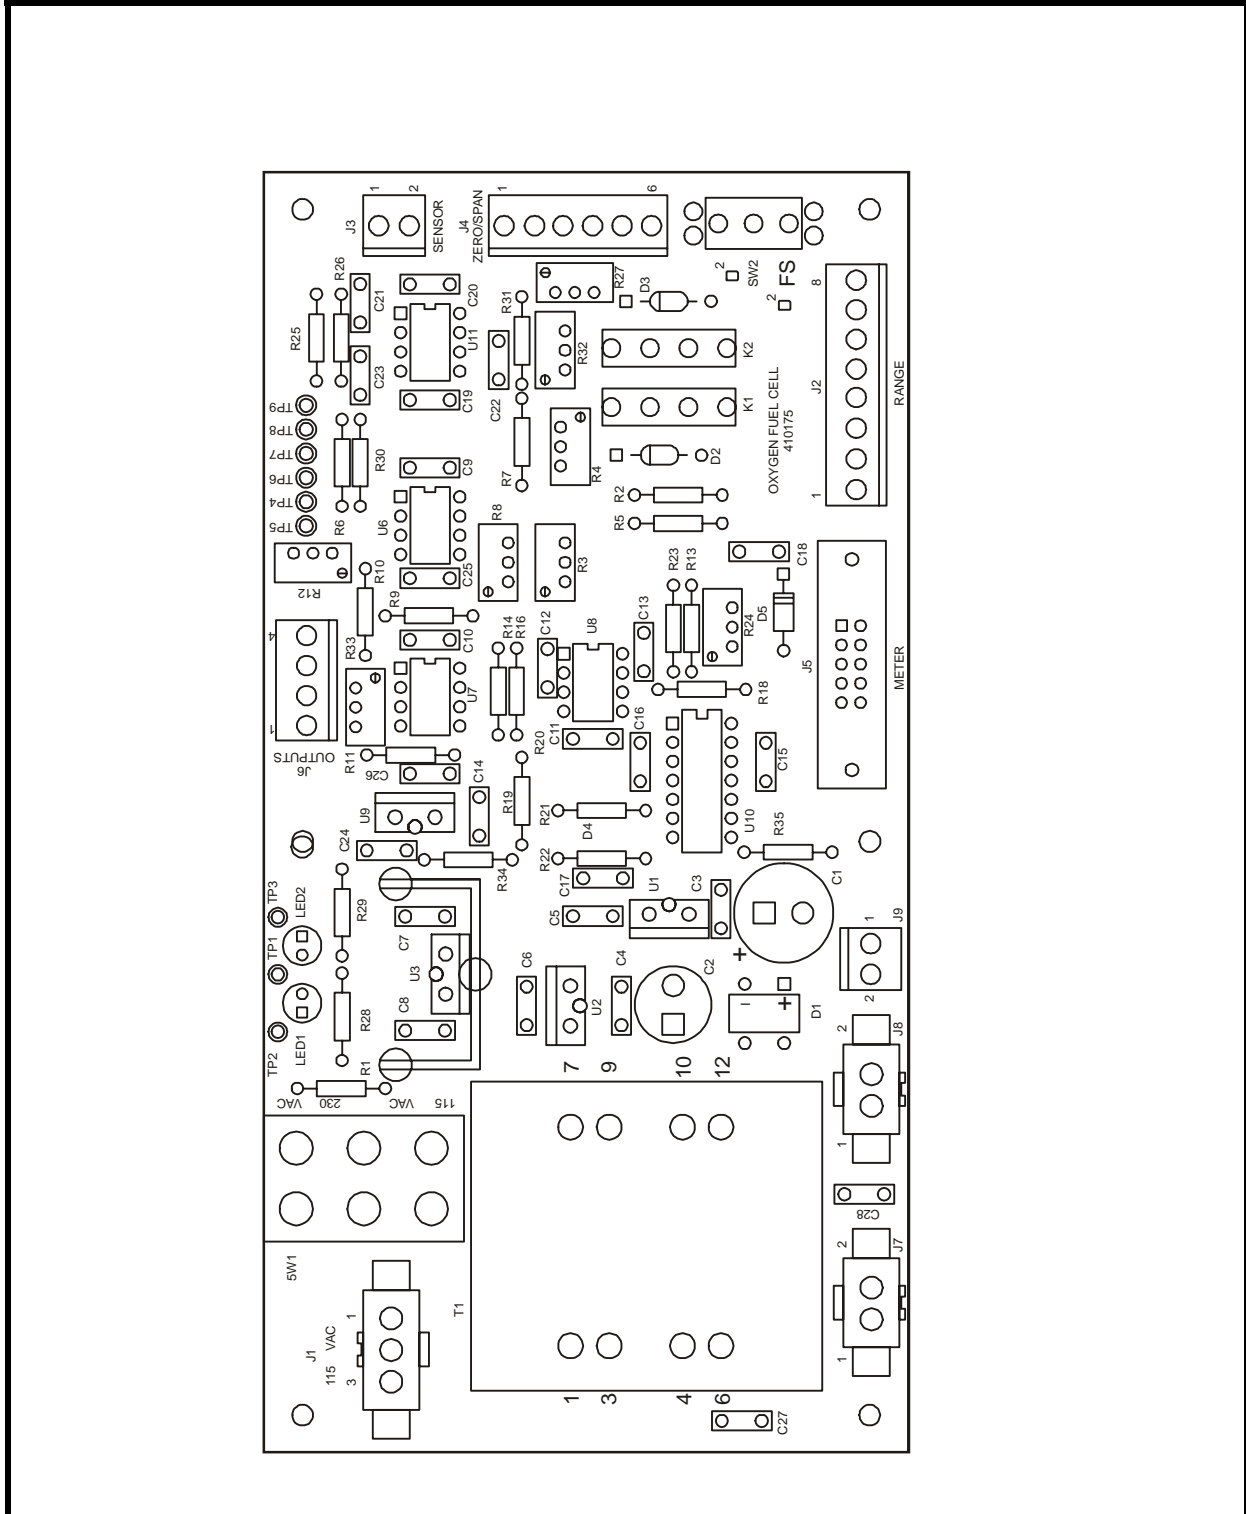

Figure 5-3 100F O₂ PCB component locator
- Figure 5-3 100F O2 PCB component locator